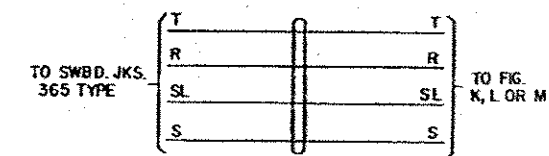

FIG. 3K
205. THE "S" LEAD SHOWN IN CROSS-CONNECTION FIGS. K, L & M, FORMERLY READ "NOT REQ WITH FIG. 3K" HOWEVER WHEN THE AUX. CKT. UNIT OF THE AUX. TRK. CKT. (FOR USE WITH KEY TEL. SETS) IS ADDED TO EXISTING JOBS IT WILL BE NECESSARY FOR THE INSTALLER TO ADD THE "S" LEAD FROM THE (CO) RELAY TO THE TERM. STRIP ON THE LINE RELAY RACK.